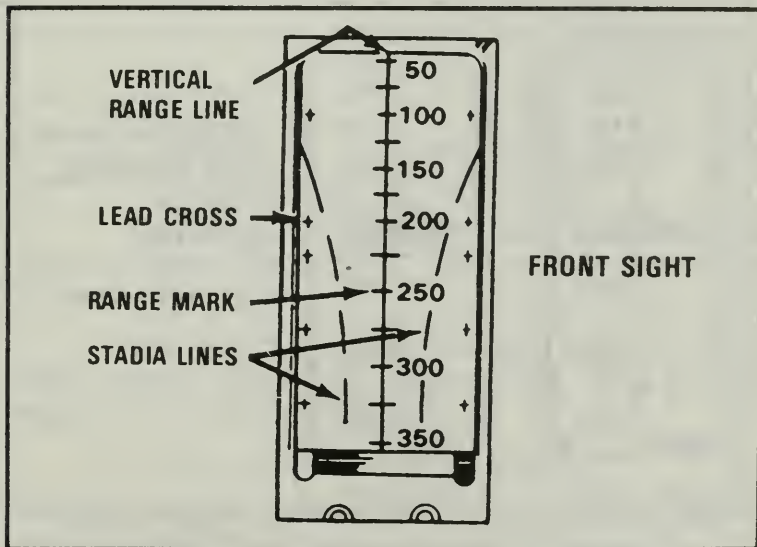

Figure 171. Front sight.
b. The front sight is a clear plastic flip-up (Figure 171). On the sight, there is a vertical range line with ranges from 50 to 350 meters indexed in 25-meter increments, two curved stadia lines (LAW stadia lines are not accurate and are no longer used), and lead crosses.